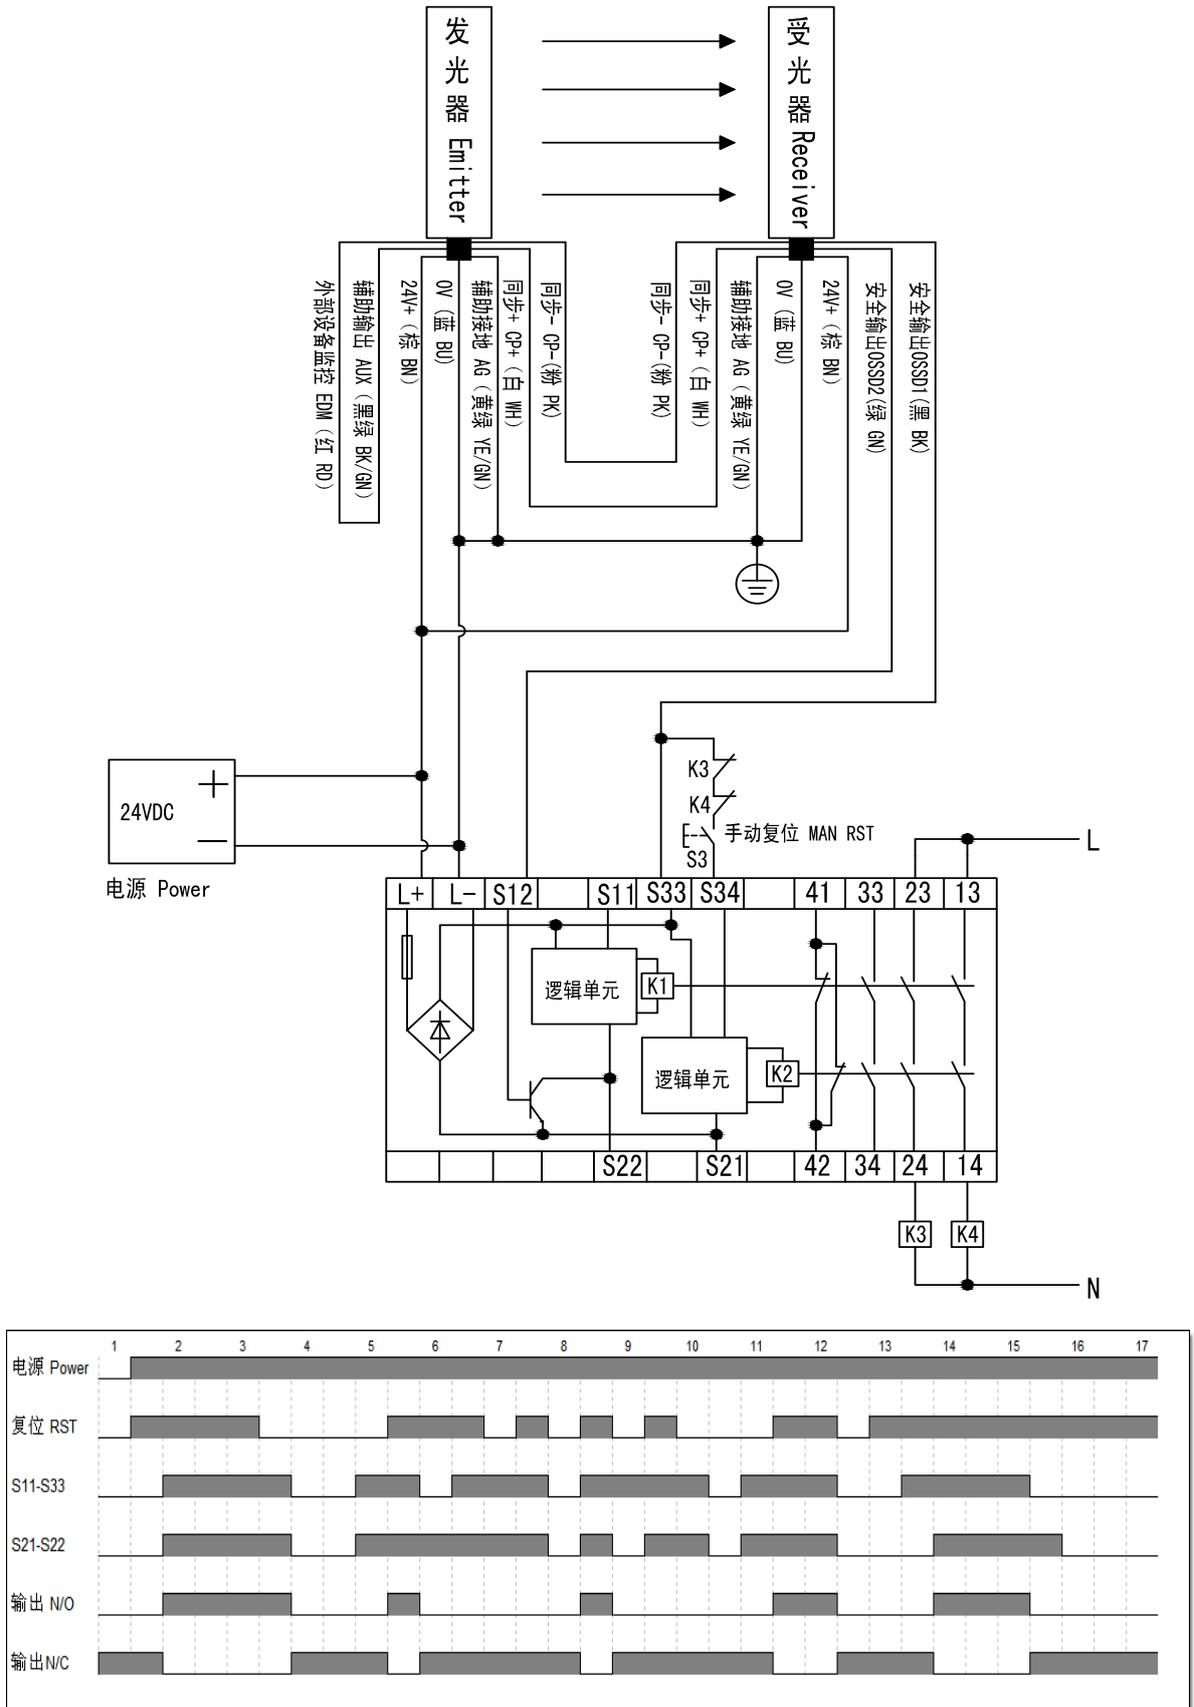

Fig.5-5 SND/E wiring and time graphic with safet relay SR4P3A1B24
- 4.Fig.5-1,5-2 K1,K2 and K3, Fig.5-5,5-6,5-7,5-8,5-9 K3 and K4 is the external device, should take the forced guide safety relay or magnetic contact